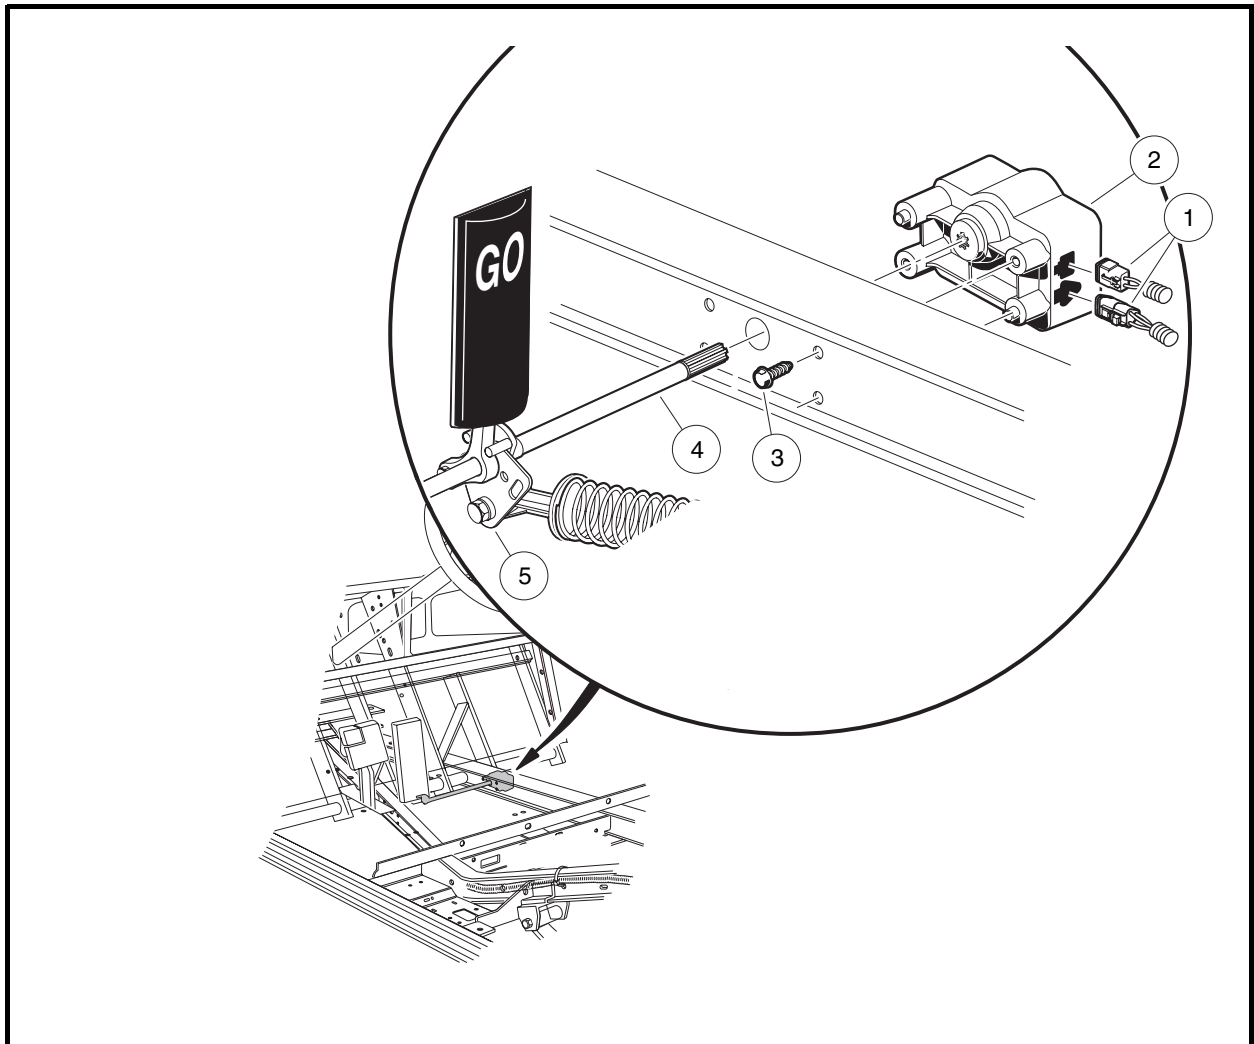

Figure 19-4 Motor Controller Output Regulator (MCOR) Mounting
3. Disconnect the two-pin and three-pin connectors (1) from the MCOR (2) **(Figure 19-4, Page 19-4).**
4. Remove the hex-head screws (3) connecting the MCOR to the frame I-beam.
6. Push the drive bar (4) into the hole in the I-beam to disengage it from the accelerator pivot rod (5).
1. Insert the splined end of the drive bar (4) through the hole in the passenger-side frame I-beam as shown **(Figure 19-4, Page 19-4).**
3. Place the MCOR (2) onto the splined end of the drive bar **(Figure 19-4, Page 19-4).** **See following NOTE.**